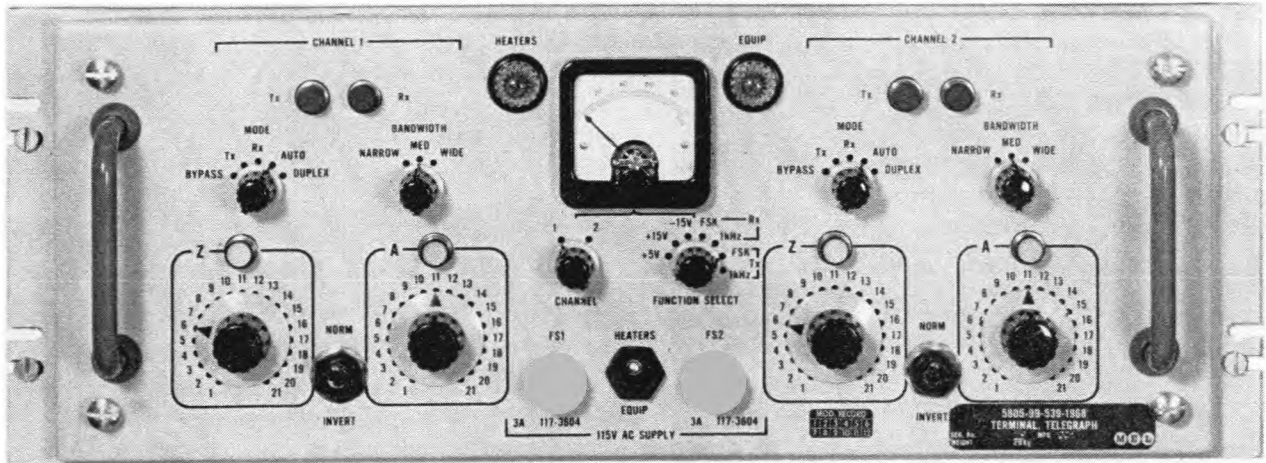
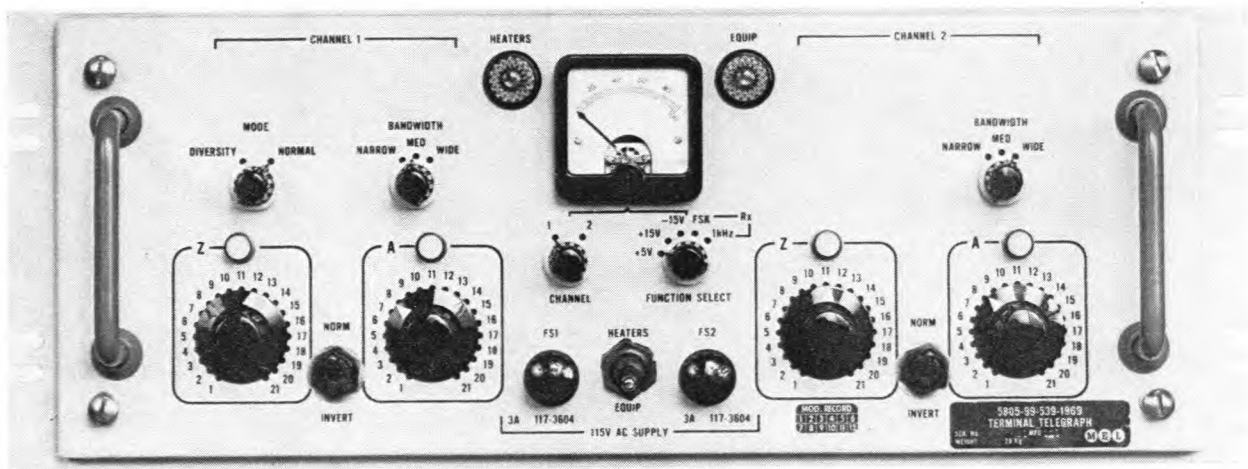

FIG. 1.1 TERMINAL TELEGRAPH (T)
FIG. 1.2 TERMINAL TELEGRAPH (B)
1. The Terminal Telegraph provides signal conversion from two-tone frequency-shift-keying (FSK) into a 1kHz ON/OFF tone and vice versa for radio tele-type working. Signal conversion is carried out in modulator/demodulator assemblies (modems). Terminal Telegraph (T) (Figure 1.1) MEL 3513-172-1884, NSN 5805-99-539-1968, contains two independent transmit-receive (Tactical) modems, and Terminal Telegraph (B) (Figure 1.2), MEL 3515-172-1885, NSN 5805-99-539-1969, contains two receive-only (Broadcast) modems.